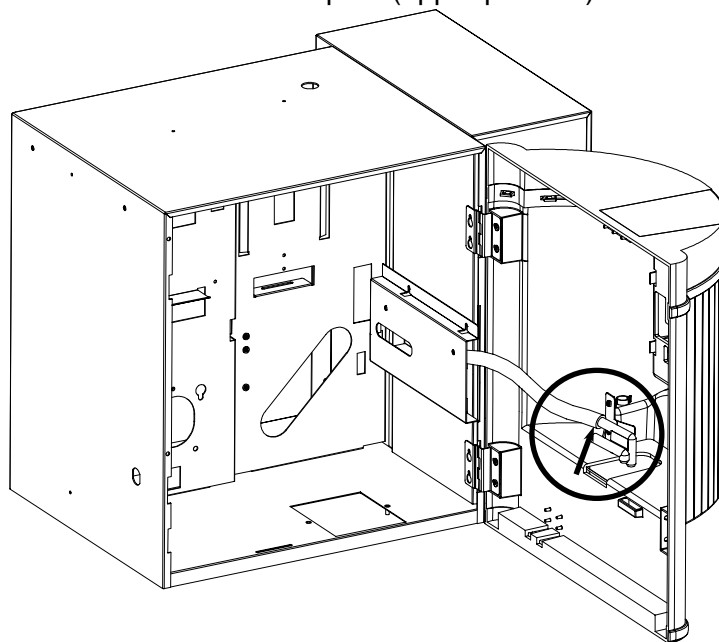

Figure 6 – Connect powder product hose to the new outlet spout.
5. Connect the outlet hose to the twin outlet spout on the front door (*Figure 6*).